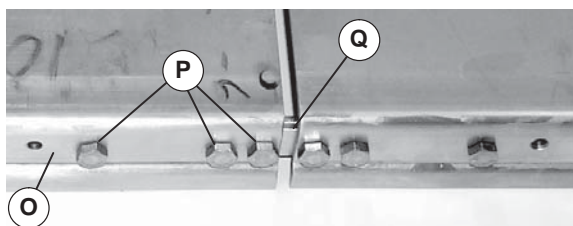

Figure 8
5. Install conveyor frame extension (Figure 8, item O) on frame connecting bar (Q) with three screws (P). Install three screws (P) on opposite side. Tighten all screws to 92 in-lb (10.4 Nm).